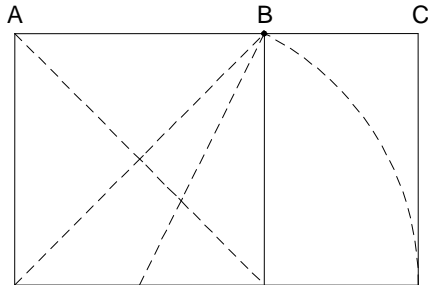

Figure 11.11: When you divide the line AC at point B using Golden Mean, the ratio of AB:AC is equal to 1:1.618
- To align the X and Y axes with the tangent entity, toggle Dist. Sync. on in the Utility/Settings menu (see Figure 11.11).